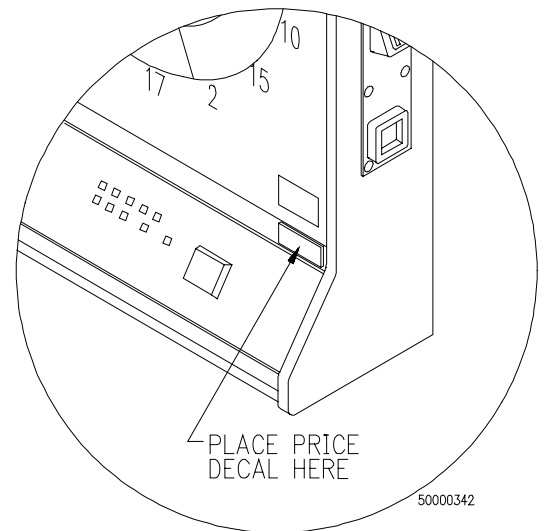

Figure 13 - LOCATION OF PRICE DECAL
- (a) Mount the left bracket (MW4028) to the hood using (2) carriage bolts and wing nuts.
- (c) Mount the right bracket (MW4029) to the hood using (2) carriage bolts and wing nuts.
11. Using (4) #10-24 wing nuts (HW3253), mount the overhead display to the brackets installed in step 10.
15. Attach the price decal above the control panel, as shown in Figure 13.